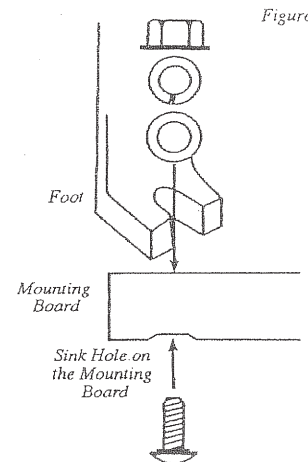

Figure 3
- Fasten the Feet to the Mounting Board using the Carriage Bolt, Flat Washer, Lock b, and Hex Flange Nut. Figure 3 – Using a 10mm Wrench, tighten the Hex Flange Nuts until snug.